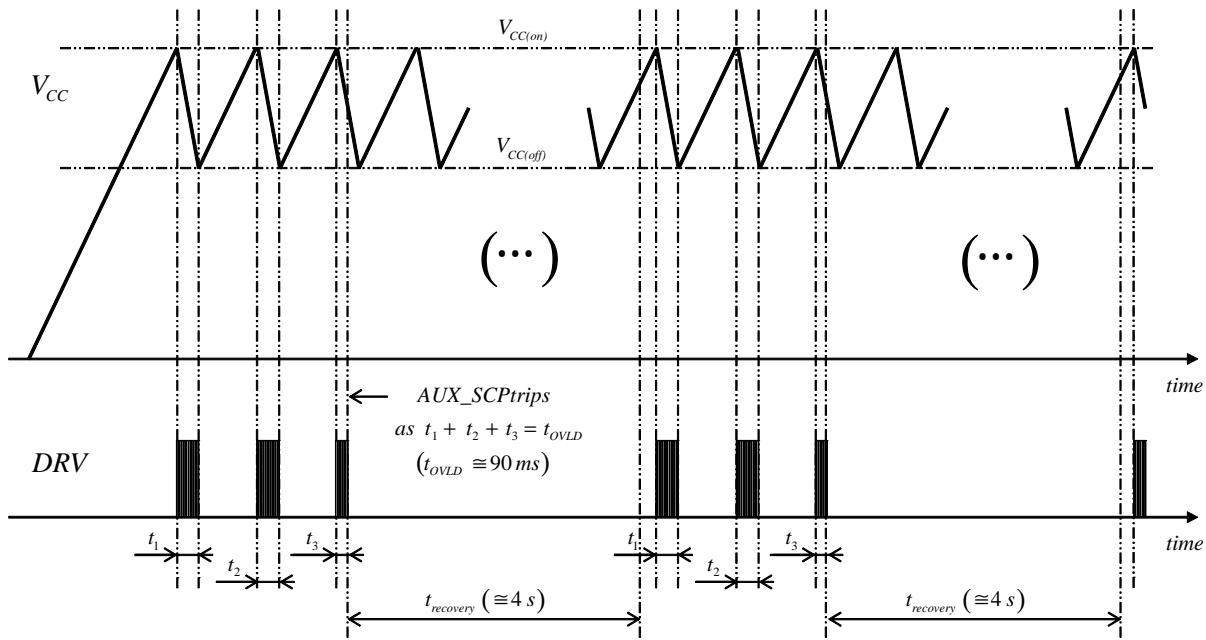

Figure 60. Start-up Sequence in a Load Short-circuit Situation (auto-recovery version)
- If the load is shorted, the circuit will operate in hiccup mode with V_{CC} oscillating between $V_{CC(\text{off})}$ and $V_{CC(\text{on})}$ until the AUX_SCP protection trips (AUX_SCP is triggered if the ZCD pin voltage does not exceed 1 V within a 90-ms operation period of time thus indicating a short to ground of the ZCD pin or an excessive load preventing the output voltage from rising). The NCL30185A latches off in this case. With the B version, the AUX_SCP protection forces the 4-s auto-recovery delay to reduce the operation duty-ratio. Figure 60 illustrates a start-up sequence with the output shorted to ground, in this second case.